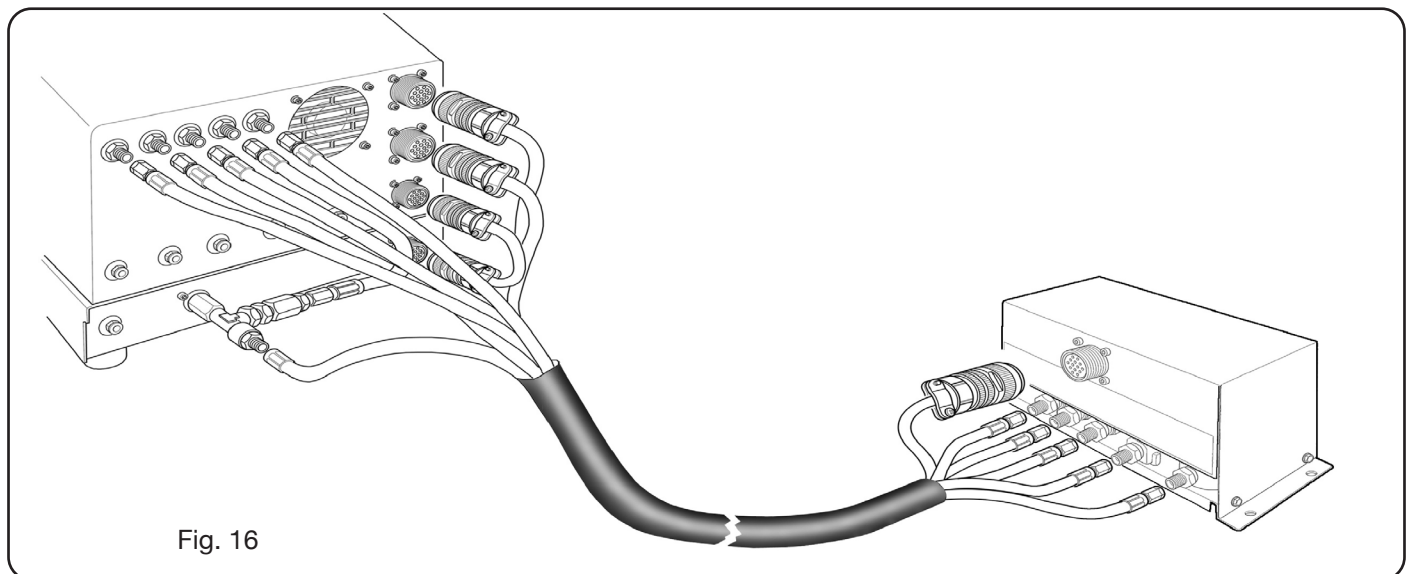

Fig. 16
- screw the electric connector to the "GAS CONSOLE" outlet (see left part of Fig. 16)
- Connect the other end of art.1166 to the PVC valve console (art.469) for the “plasma”, to “secondary” and “auxiliary” pipes, being careful to make sure the markings correspond. Fasten the PVC to the pantograph head, near the torch (see the right part of Fig. 16)
- Connect the other end of art.1166 to the PVC valve console (art.469) for the “plasma”, to “secondary” and “auxiliary” pipes, being careful to make sure the gas pipe markings correspond. Fasten the PVC to the pantograph head, near the torch (see the right part of Fig. 16).